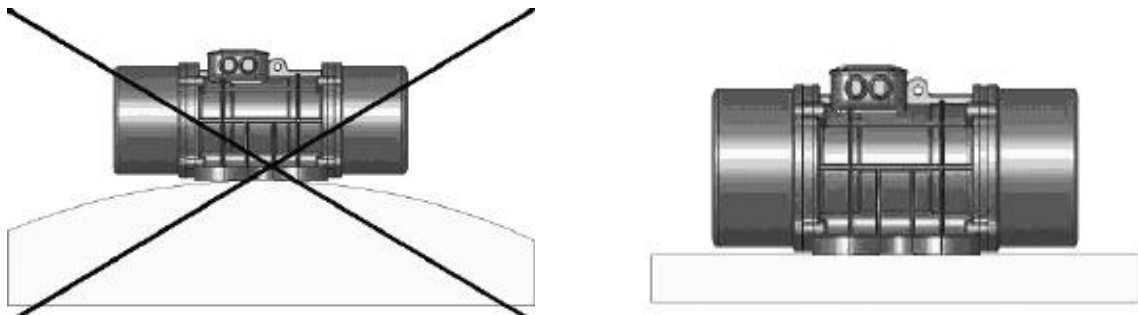

Figure 6-3. Mounting surface
6.4.6 Make sure mounting surface as shown in Figure 6-3 is strong and flat, The flatness of the mounting surface should be less than 0.08mm (This will minimize internal stress to vibrator casting when tightening mount bolts) and no air holes and cracks on the surface; The mounting surface should not smaller than the footing surface of the motor; Welding in the mounting surface area should be avoided, otherwise the flatness of the mounting surface will be affected.